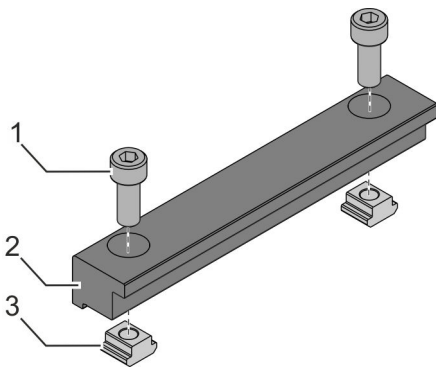

Fig. 24: Connecting clamping bars
1. ➤ Insert screws (Fig. 24/1) into the clamping bar (Fig. 24/2) and connect with the slot stones (Fig. 24/3).